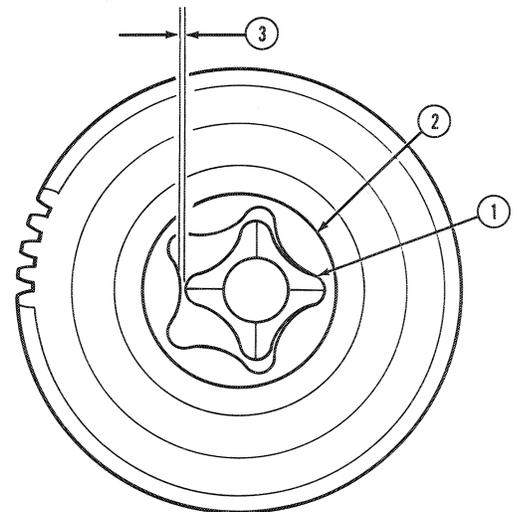

Figure 42
3. Measure the rotor-to-vane clearance as shown, Figure 42, and replace defective components as required. See "Specifications," Chapter 3.